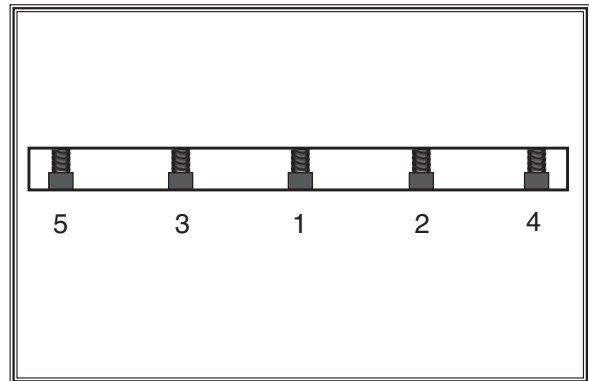

Figure 42. Gib bolt tightening sequence.
8. Rotate the cutterhead to the first knife you started with. Slightly tighten all the gib bolts, starting at the ends and working your way to the middle by alternating left and right (**Figure 42**). Repeat this step on the rest of the knives.